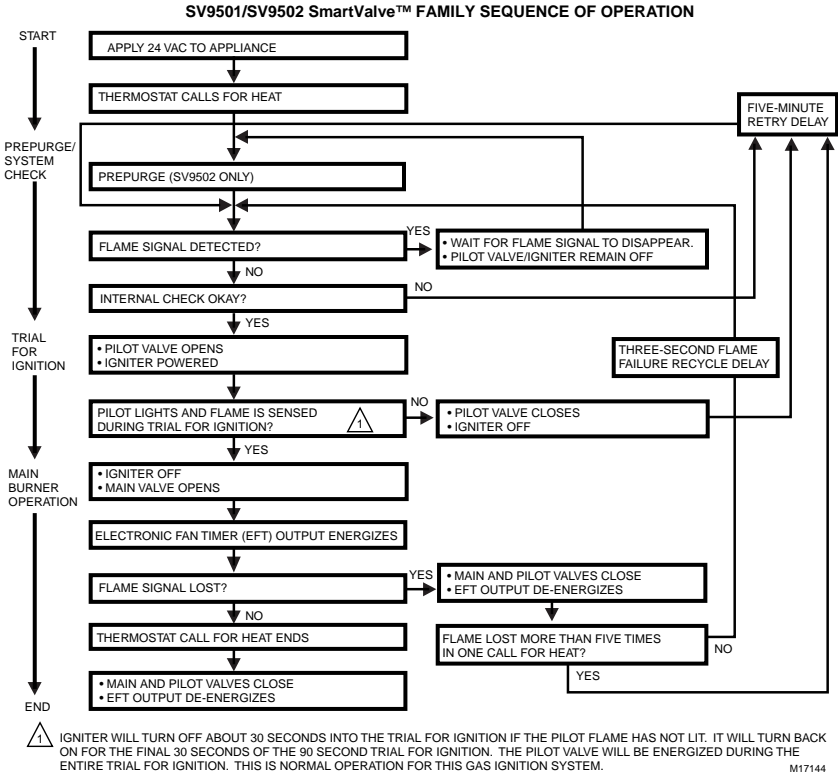

Fig. 14. SV9501/SV9502 SmartValve Sequence of Operation.
2. Follow the sequence of operation shown in Fig. 14.
9. Follow the Operating Sequence and Troubleshooting flow chart in Fig. 14 and Fig. 16 for the replacement SV9501 or SV9502 SmartValve.